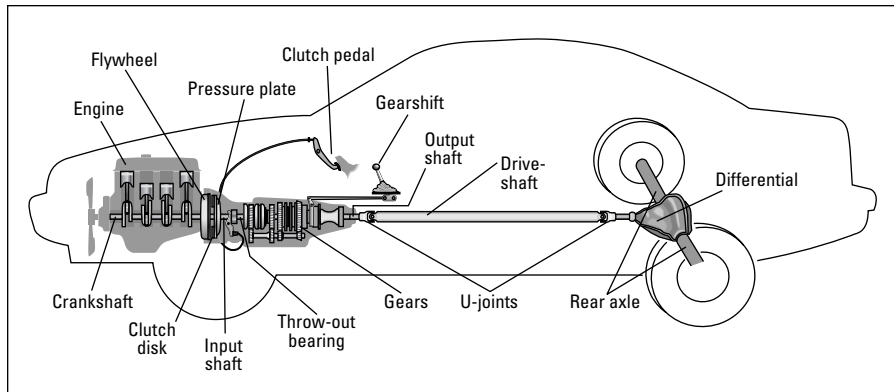

Figure 4-8: The drive train in a vehicle with rear-wheel drive and a manual transmission.
12. If your vehicle has a **manual transmission**, you'll also find the **clutch** located between the crankshaft and the transmission. The clutch connects or disconnects the engine from the rest of the **drive train**. Because the parts are all stretched out in a row and easy to see, Figure 4-8 shows you the drive train on a vehicle with rear-wheel drive and a manual transmission. Remember, in a car with an **automatic transmission**, the clutch action is done automatically.